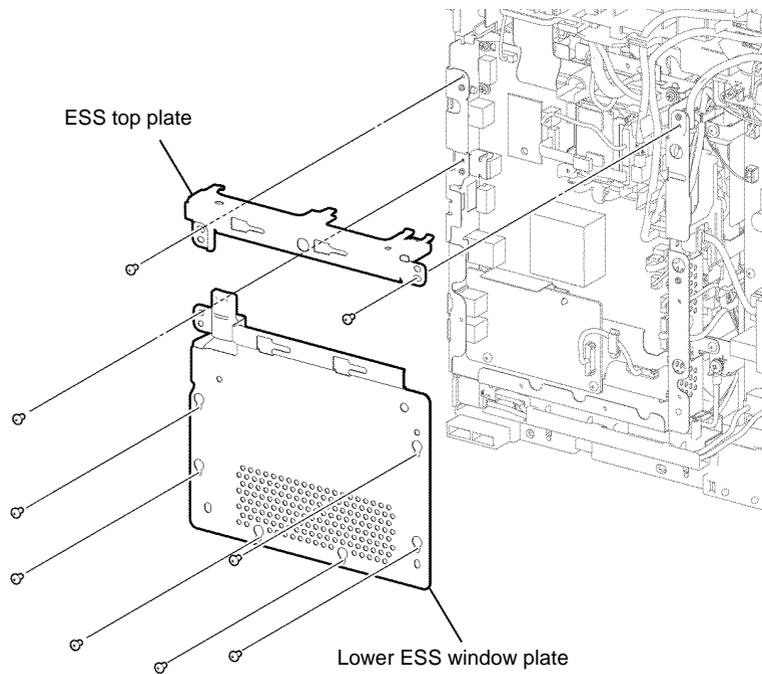

Figure 1 ESS top and lower plate removal
8. Remove seven screws (silver, M3, 6mm), then remove the lower ESS window plate with WIFI release lever, Figure 1.
9. Remove two screws (silver, M3, 6mm), then remove the ESS top plate, Figure 1.